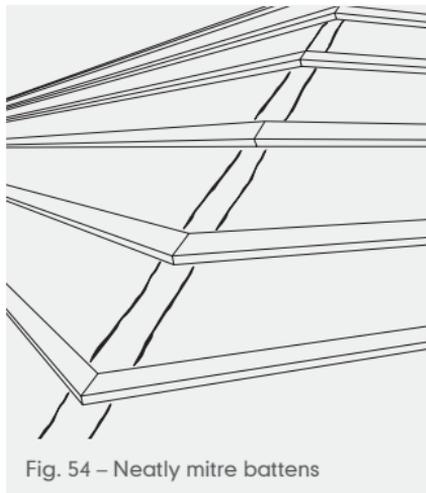

Fig. 54 – Neatly mitre battens
- 1 Lay roof underlay and battens in the normal manner, leaving a 5mm continuous gap in underlay either side of hip rafter if roof void is to be ventilated to recommendations of BS 5250. Mitre cut the ends of tiling battens and support on hip rafter (Fig. 54).